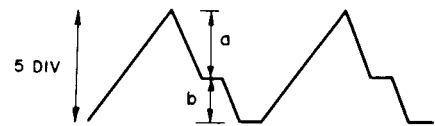

Fig. 11-5 Sawtooth wave adjustment
3. When a waveform such as the one illustrated in Fig. 11-5 appears on the oscilloscope, vary gain on the oscilloscope until a sawtooth wave a 5 div peak-to-peak is attained. Then referring to Fig. 11-5, adjust the ratio of a/b to 3/2 by adjusting VR1. (The presence of noise may affect this adjustment, so it must be done carefully.)